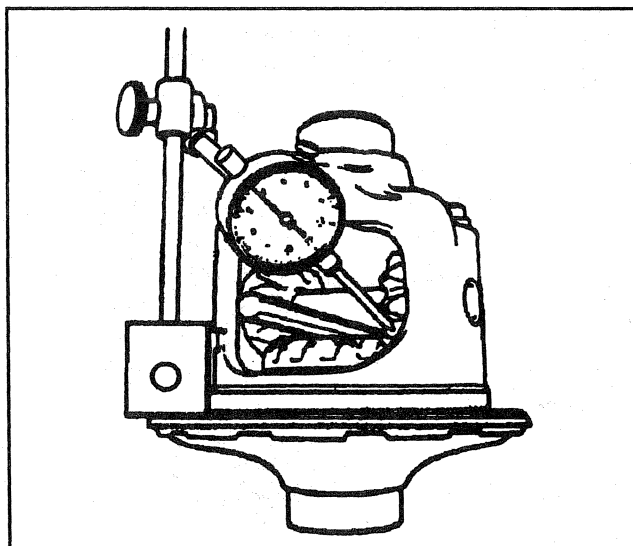

Figure 5—Checking Cam Gear Backlash
6. Mount a dial indicator to the ring gear flange and place the stem of the indicator on one of the teeth on the pinion gear closest to the lock screw (Figure 5).
8. Mount a dial indicator to the ring gear flange, and place the stem of the indicator on one of the teeth on the pinion gear closest to the lock screw (Figure 5).